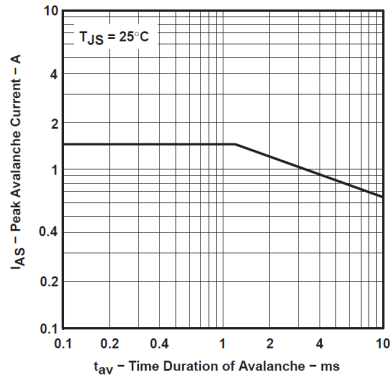

图 5-1. Peak Avalanche Current vs. Time Duration of Avalanche
- (1) Operation outside the Absolute Maximum Ratings may cause permanent device damage. Absolute Maximum Ratings do not imply functional operation of the device at these or any other conditions beyond those listed under *Recommended Operating Conditions*. If used outside the Recommended Operating Conditions but within the Absolute Maximum Ratings, the device may not be fully functional, and this may affect device reliability, functionality, performance, and shorten the device lifetime.
- (2) All voltage values are with respect to network ground terminal GND.
- (3) Pulse duration $\leq 100\mu\text{s}$, duty cycle $\leq 2\%$
- (4) DRAIN supply voltage = 15V, starting junction temperature (T_{JS}) = 25°C , $L = 100\text{mH}$, $I_{AS} = 1\text{A}$ (see 图 5-1).
- (5) See Dissipation Table